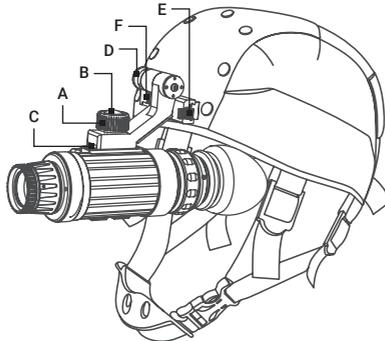

FIGURE 2-2. MOUNTING WOLF-14 TO A GOGGLE KIT
Mount the Wolf-14 to the Cap Goggle Kit W as follows (refer to Figure 2-2):
Figure 2-2 shows the Wolf-14 in the correct position for the left eye. To readjust the unit for the other eye, remove the unit from the goggle kit bracket. Turn the unit around (180°) and mount it on the bracket through the rail on the second side. With the button (E) pushed, move the unit along the slide-rail (F) until the desired, most comfortable position is reached.